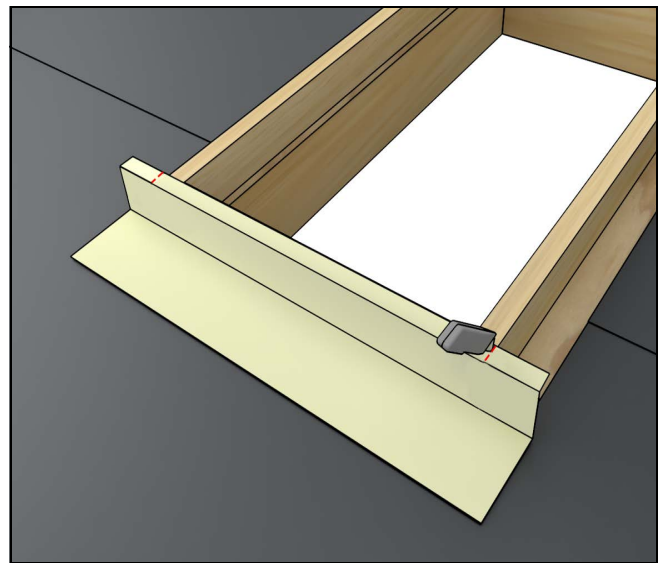

Figure 33
5. To ensure waterproofing, curbs shall be completely wrapped in adhesive flexible flashing as indicated. Underlayment must be applied before installing the rigid flashing. Wrap the bottom and the corners of the curb with the adhesive flexible flashing and create water-shedding laps over roofing underlayment. See Figure 33.
*NOTE: Skylight curbs with heights over 3½" (90) may require additional underlayment material for proper installation. Peel off backing from adhesive skylight underlayment prior to applying it to roof decking and skylight curb. Ensure that surfaces are clean, dry and free of debris.*